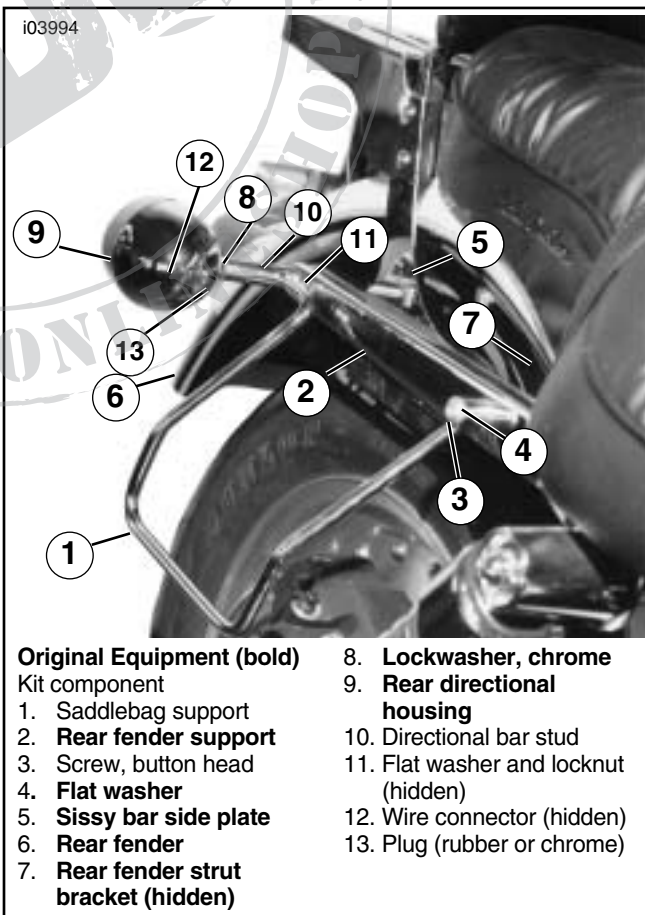

Figure 1. Right Saddlebag Support Bar Installed on FXD
7. See Figure 1. Install lockwasher and right-rear directional housing onto short threaded end (5/16-23 x 3/8 in.) of one rear-directional housing support from kit. Tighten securely. Take care to avoid scratching or marring component chrome finish.
4. Route the directional wires through the hole in the fender as shown in Figure 1. Measure the wires for length into the tail-lamp housing. Allow enough wire for termination. Remove the measured wires from the fender and cut the wires to length.